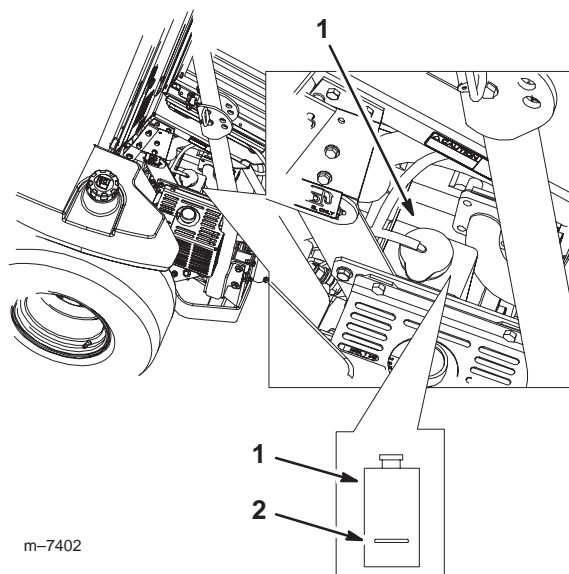

Figure 47
3. With the engine cool, check the overflow bottle level. The fluid needs to be up to the bump on the outside of the overflow bottle (Fig. 47).
4. If the coolant level is low, add a 50/50 mix of extended life antifreeze/Dex-Cool[®] and water to the overflow bottle (Fig. 47).
5. Add the 50/50 coolant mix to the overflow bottle and fill it to the indicator line on the bottle (Fig. 47).
6. Remove debris from the radiator core and engine (Fig. 47).